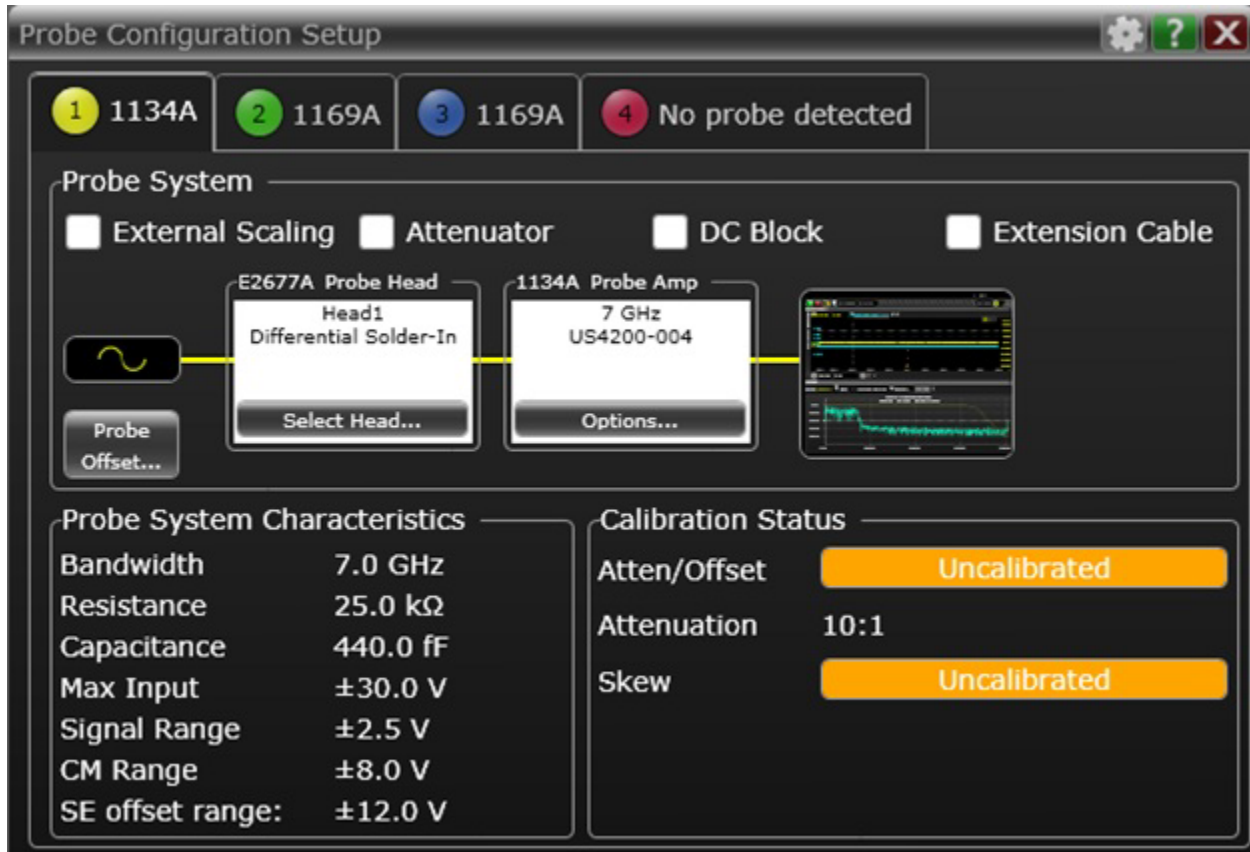

Figure 10 Probe Configuration Setup Screen- 2 Port Channel 1
- 3 On the **Probe Configuration Setup** screen, enter the probe and connection type (single ended). In the above example (Figure 10), the E2677A solder-in probe in single ended mode has been selected.